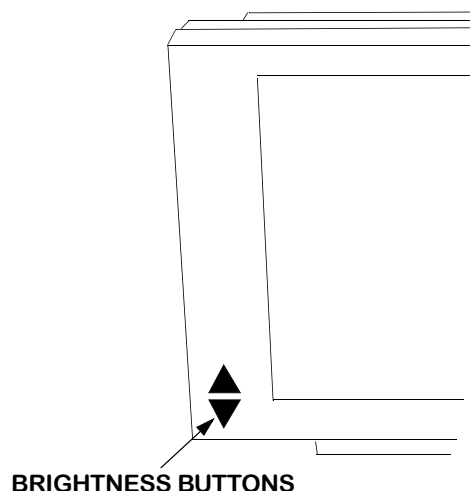

Figure 14 Brightness Controls
- (1) For full brightness, press and hold the two arrow buttons together for 3 seconds then release, see **Figure 14**. This adjusts the display to the top brightness level.